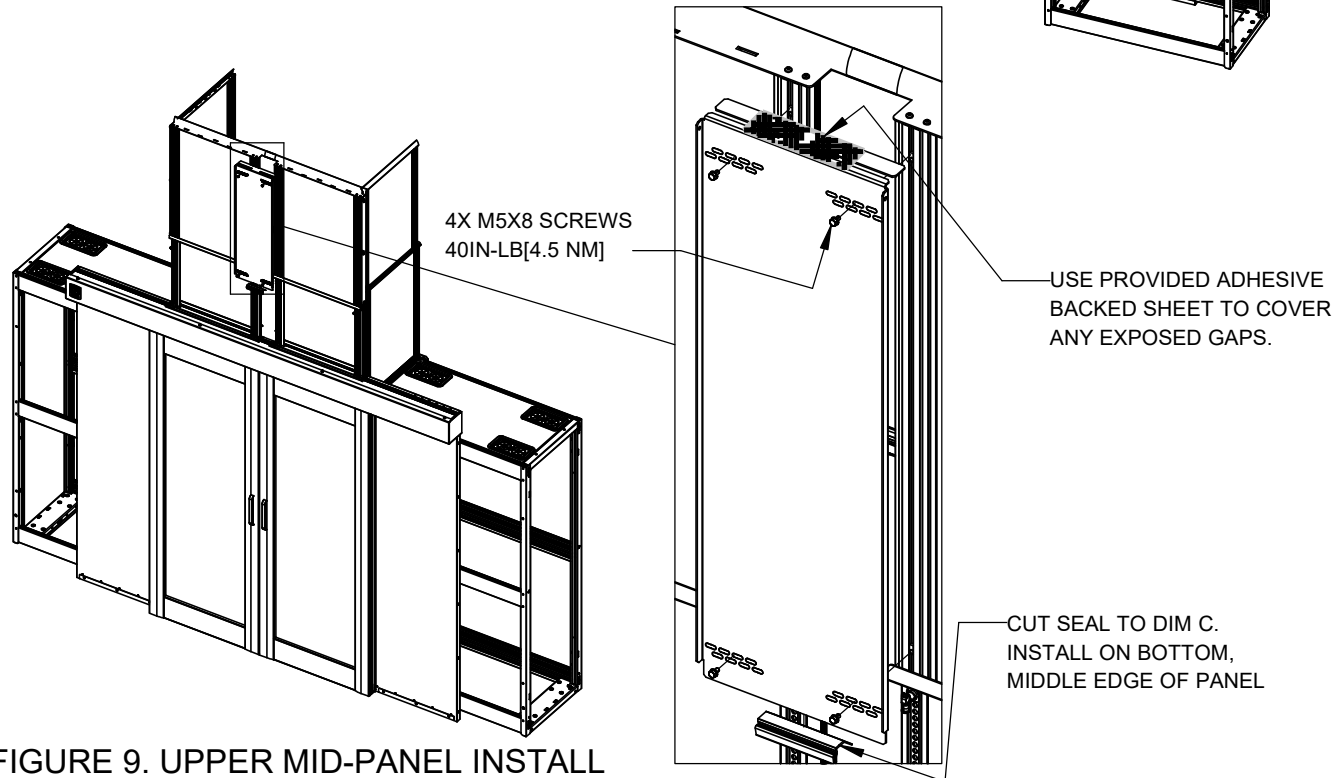

FIGURE 9. UPPER MID-PANEL INSTALL
14. Install the upper mid panel as shown in Figure 9 in a similar manner as the lower panel except that the seal is installed on the lower edge.
15. Use the provided sealing sheet to cover any exposed gaps on the upper mid panel as shown in Figure 9.